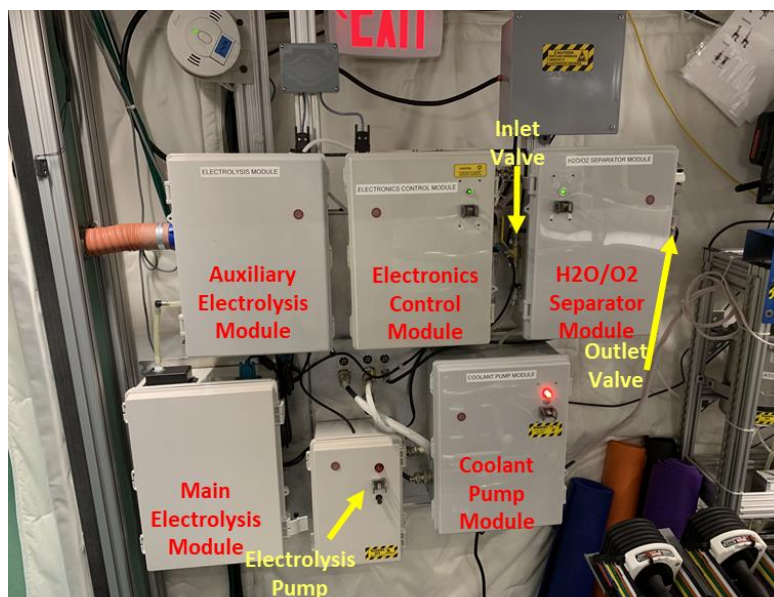

Figure 1: Solid Polymer Electrolysis System
- 1.3 Gather portable anemometer and take reading of exhaust flow to the right of the H2O/O2 Separator Module (see Figure 1). Set anemometer to m/s and hold anemometer within an inch of the outlet valve, left of center, for 10 seconds to gather an accurate reading.
- 1.6 Switch inlet valve located to the left of the H2O/O2 Separator Module to “CLOSED”. (see Figure 1).
- 1.7 Switch outlet valve located to the right of the H2O/O2 Separator Module to “CLOSED”. (see Figure 1).
- 1.8 Flip power switch of Electrolysis Pump to “OFF”. (see Figure 1).